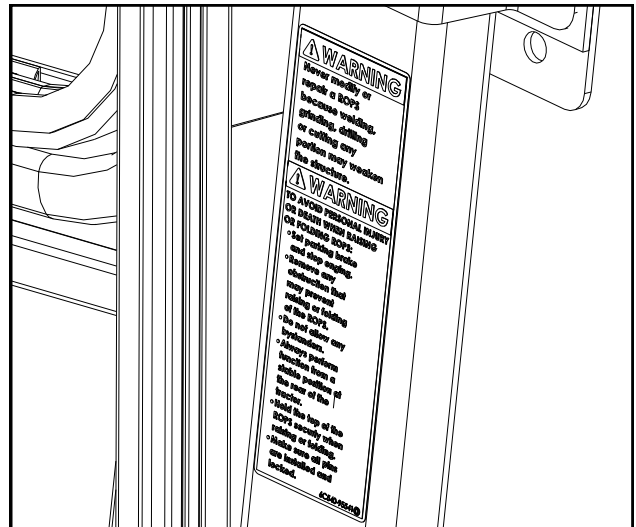

Fig. 22.1 (ROPS warning label installation)
22.1 Install ROPS warning decal on the left side of the right ROPS tube just below the previously installed ROPS mount. See fig. 22.1.